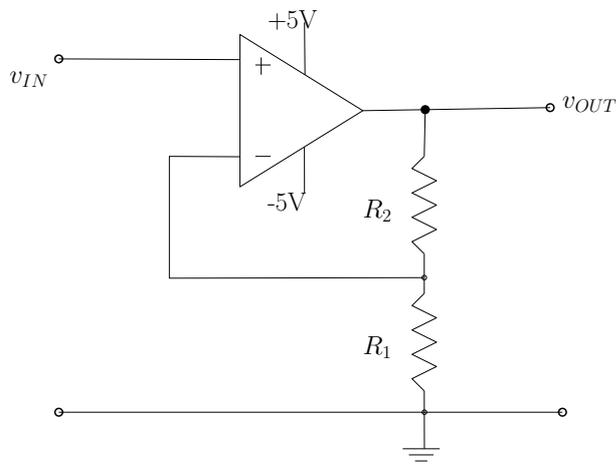

Figure 3: Using an OP-Amp as a voltage amplifier.
1. You have learned by now that the signal produced by the microphone was not enough to drive the speakers at a reasonable level. You also know by now, that you would need to amplify the microphone signal by a large factor. Design the circuit of Figure 3 for this purpose so that it gives you a required amplification factor. Recall, from your lab instruction that the amplification factor is given by
2. Do not use your circuit to amplify the microphone signal yet. Rather, first investigate the circuit as explained in the next step. Build the circuit using a 741 op amp. The pin assignment for this op amp has been given in Fig. 3(a) of Experiment 4.
3. Measure and plot the DC transfer characteristic ( $V_{OUT}$  vs.  $v_{IN}$ ) for the circuit of Figure 3. Make sure you have enough points in the high-slope region so that you can obtain a relatively accurate plot. If the characteristic does not pass exactly through the origin, do not worry (this is due to an op amp imperfection called DC offset voltage, discussed in the previous Experiment; although this imperfection can cause problems in certain cases if not properly taken into account, it will not cause problems in the circuits we will be using). Determine the slope of this characteristic in the high-slope region, and verify that it is equal to the desired voltage gain. When finished with this step, turn off the power supplies and disconnect the input source from the circuit.